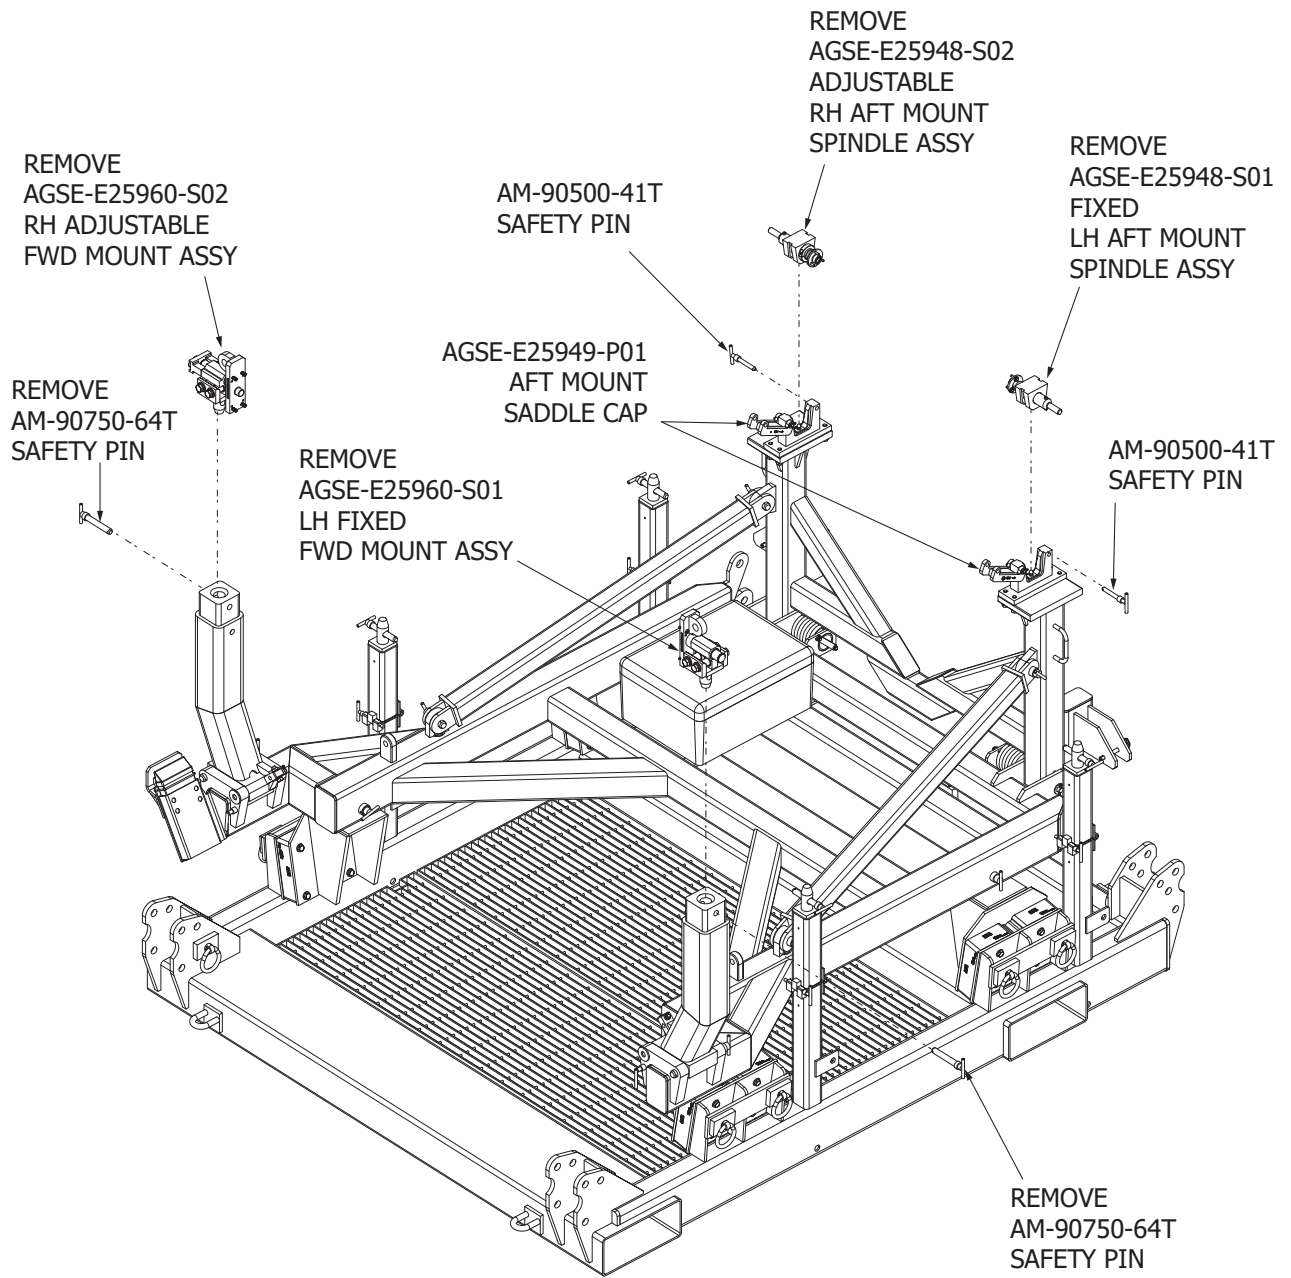

Figure 5.1-1
- 3) Remove the AGSE-E25960-S01 LH fixed FWD mount assembly and RH adjustable AGSE-E25960-S02 FWD mount assembly from the cradle by removing the AM-90750-64T safety pins (2) (Figure 5.1-1).
- 4) Remove the AM-90500-41T safety pin to pivot open the AM-E25949-P01 AFT mount saddle cap on the AGSE-E25948-S01 LH fixed AFT mount assembly to remove the AGSE-E25948-S01 LH fixed AFT mount spindle assembly from the cradle (Figure 5.1-1). (If the mounts are not installed on the cradle, they can be found in the mount container.)
- 5) Remove the AM-90500-41T safety pin to pivot open the AM-E25949-P01 AFT mount saddle cap on the AGSE-E25948-S02 RH adjustable AFT mount assembly to remove the AGSE-E25948-S02 RH adjustable AFT mount spindle assembly from the cradle. (Figure 5.1-1). (If the mounts are not installed on the cradle, they can be found in the mount container.)